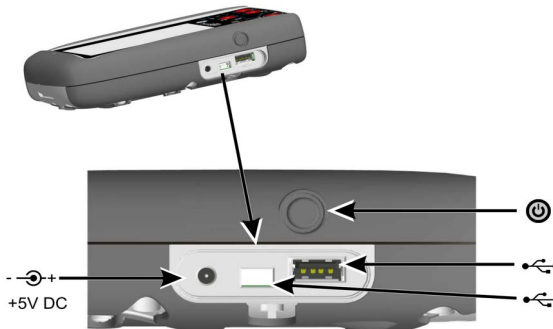

Figure 2: Side View
1. Connect the DC power supply/battery charger unit in to the +5V_{DC} connection on the side of the unit (Ref: Fig 2 Side View).
2. The battery can also be charged using the USB connections (Ref: Fig 2 Side View).
From OFF – press the power button (Ref: Fig 2, Side View) until the dashboard is displayed.